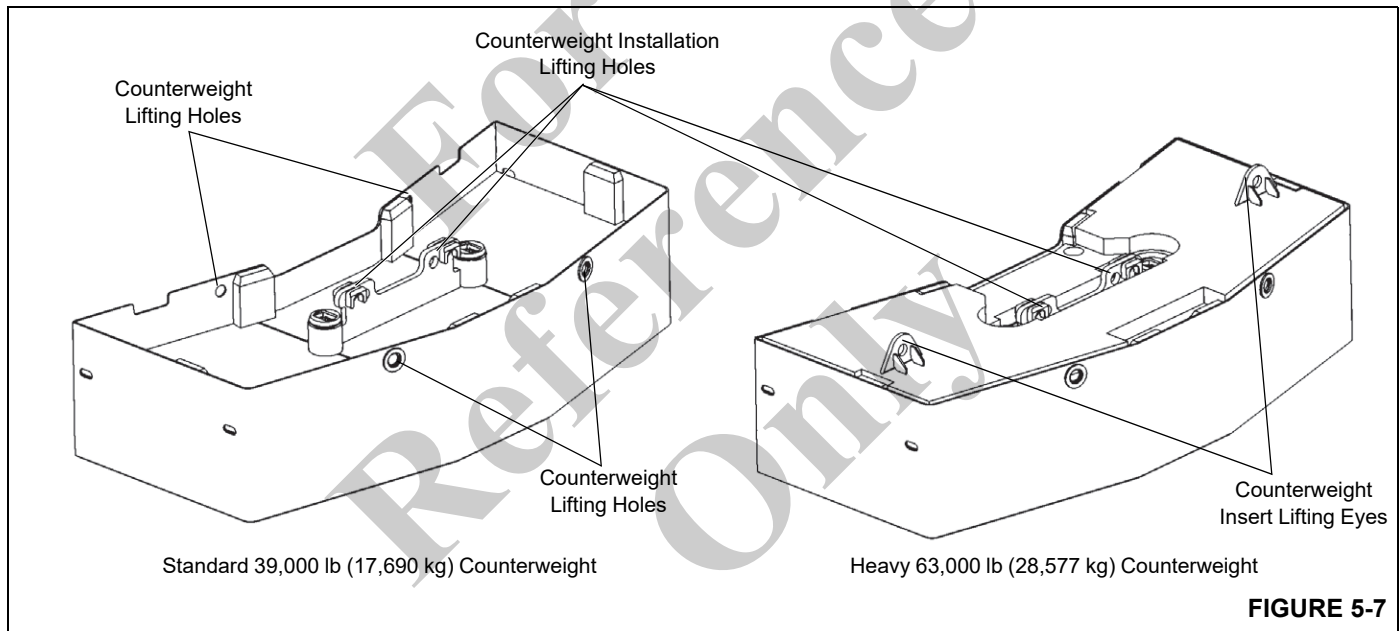
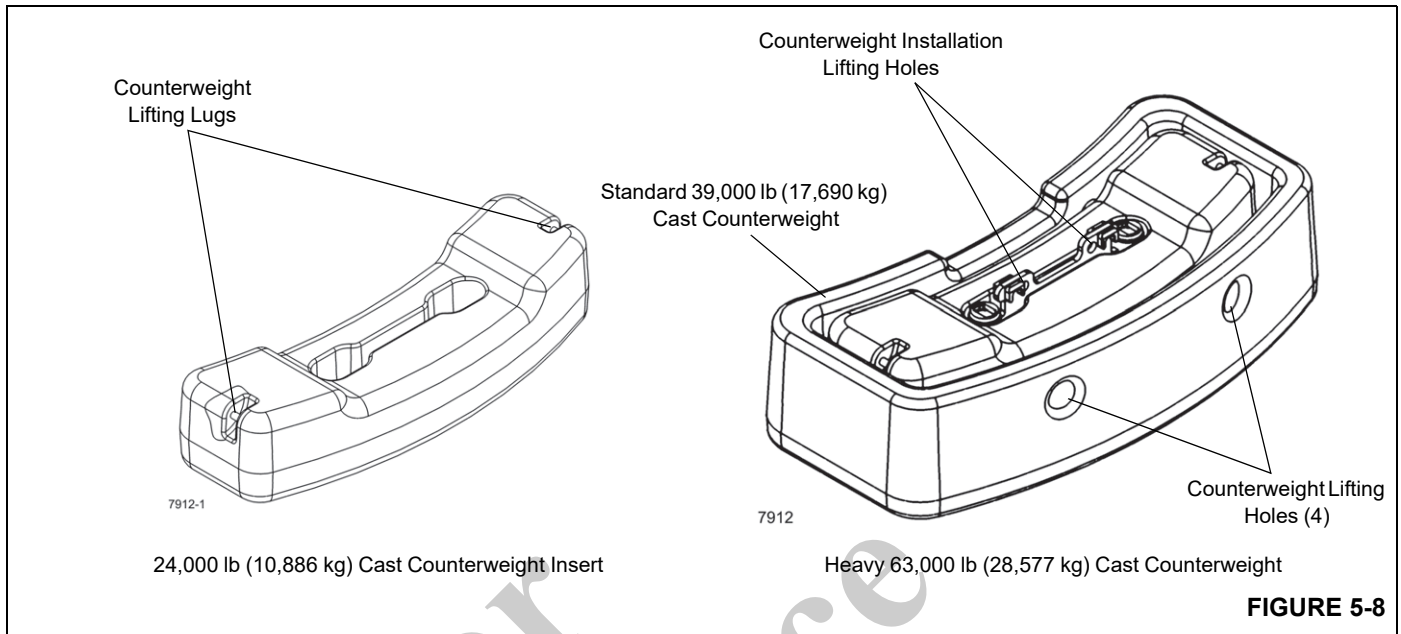

FIGURE 5-7
FIGURE 5-8
4. Connect sling assembly to the standard counterweight using the installation lifting holes (Figure 5-7 and Figure 5-8).
1. Rig the crane with three parts of line (Figure 5-7 and Figure 5-8).
10. Connect sling assembly to the standard counterweight using the installation lifting holes (Figure 5-7 and Figure 5-8).
6. Connect sling assembly to the heavy counterweight assembly using the installation lifting holes (Figure 5-7 and Figure 5-8).
1. Rig the crane with five parts of line (Figure 5-7 and Figure 5-8).